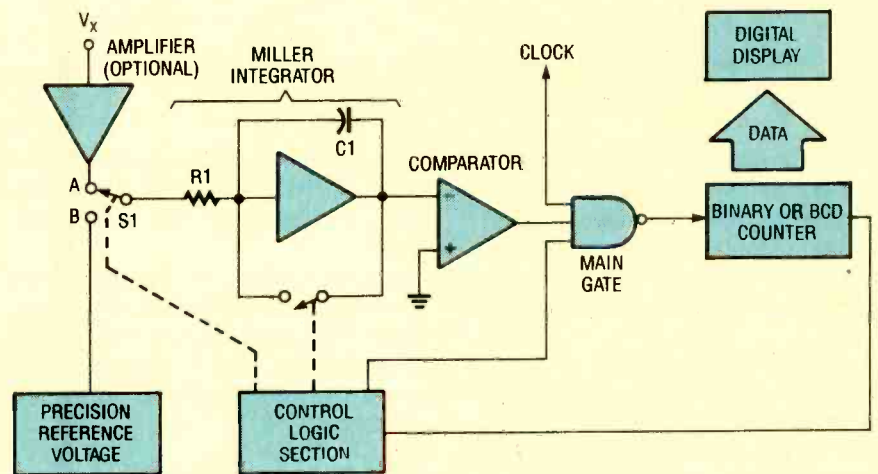

Fig. 2. A dual-slope integrator based meter can integrate-out noise to give more accurate readings than a single-slope device.
The liquid barretter design evolved, literally by accident, from a "hot-wire barretter" Fessenden had developed while still in Pittsburgh and had used in his 1900 Rock Point wireless-telephony experiment. The hot-wire device consisted of a short length of very thin, silver-coated platinum wire bent in a "U" shaped loop and enclosed in an evacuated glass envelope (see Fig. 2). The
*Fig. 2. Fessenden's hot-wire barretter provided continuous detection but was not very sensitive. The device was made up of lead-in wires (L), a wire loop (W), an evacuated inner envelope (A) and a silvered outer bulb (B).*
The dual-slope integrator of Fig. 2 solves the noise problem. The principal difference between the two converters is that the dual-slope converter makes the conversion in two steps. During the first step, the integrator is charged from the unknown input signal  $V_x$ . The output voltage of the integrator continues to rise as long as the input switch S1 is connected to the input amplifier. The binary/BCD counter is allowed to overflow, and this overflow signal tells the control logic circuits to switch S1 to position B, the output of a precision reference-voltage source. The polarity of this voltage is such that it will cause the integrator to discharge at a fixed rate.
**Receiver Theory.** The receiver in Fig. 2 is just as simple as the transmitter and a lot more fun to play with. The solar cell picks up any light striking it and converts it to a DC voltage. Components C1 and R1 limit the lower input frequency as well as blocking DC from the solar cell. Components U1, R2, R3, R4, and C2 make up the amplifier stage. Speaker SPKR1 can be a headphone speaker or dynamic microphone.
Fig. 2. The receiver portion of the communicator is just as simple as the transmitter: A solar cell picks up light emitted by the transmitter and converts it into a varying DC voltage.